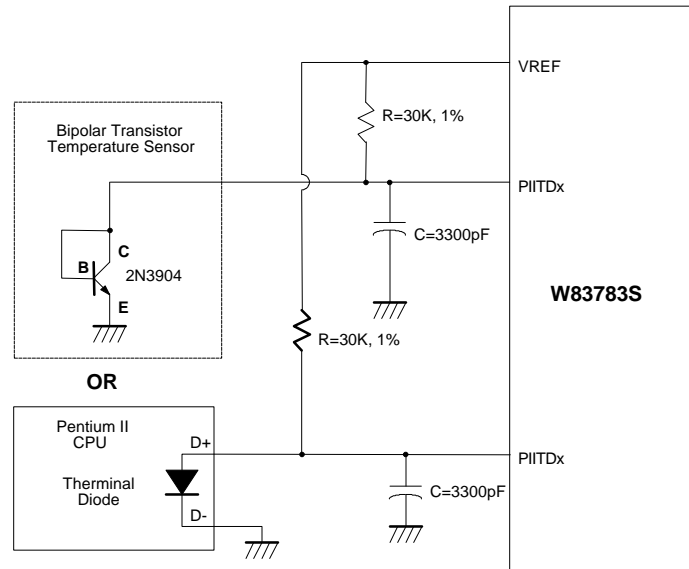

Figure 12.
The W83783S can alternate the thermistor to Pentium II™ (Deschutes) thermal diode interface or transistor 2N3904 and the circuit connection is shown as Figure 12. The pin of Pentium II™ D- is connected to power supply ground (GND) and the pin D+ is connected to pin PIIX in the W83783S. The resistor R=30K ohms should be connected to VREF to supply the diode bias current and the bypass capacitor C=3300pF should be added to filter the high frequency noise. The transistor 2N3904 should be connected to a form with a diode, that is, the Base (B) and Collector (C) in the 2N3904 should be tied together to act as a thermal diode.